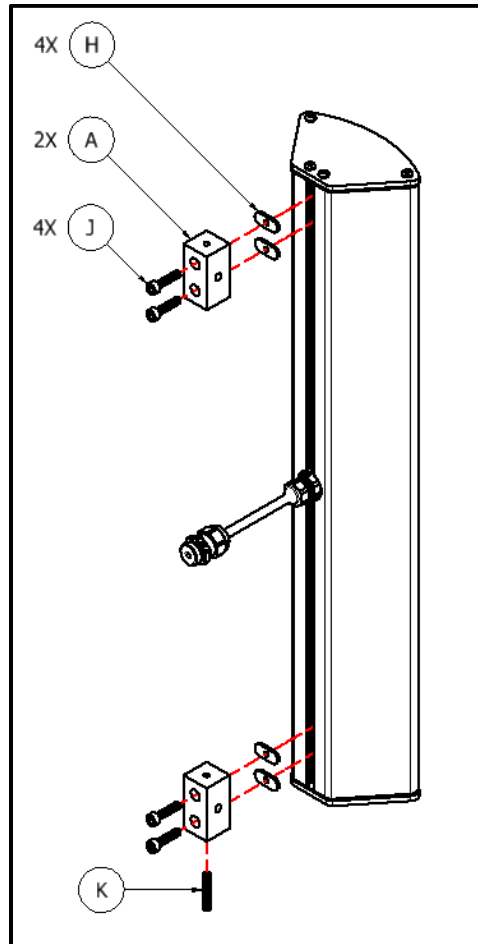

Figure 11. 90243A-803 and 90243A-804 Wall Mounting – Step 4
4. Insert four T-Nuts (Part H) into the slot on the back of the LineWave and attach two Pivot Nubs (Part A) 1" from each end, using four 1" long screws (Part J). On the bottom Pivot Nub install set screw (Part K) as shown in Figure 11.